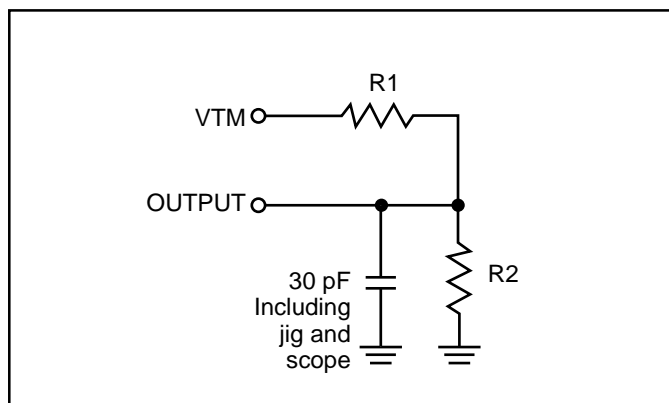

Figure 1
1. Test conditions assume signal transition times of 5 ns or less, timing reference levels of 0.9V/1.5V, input pulse levels of 0.4 to VDD-0.2V/VDD-0.3V and output loading specified in Figure 1.
1. Test conditions assume signal transition times of 5 ns or less, timing reference levels of 0.9V/1.5V, input pulse levels of 0.4V to  $V_{DD}-0.2V/V_{DD}-0.3V$  and output loading specified in Figure 1.